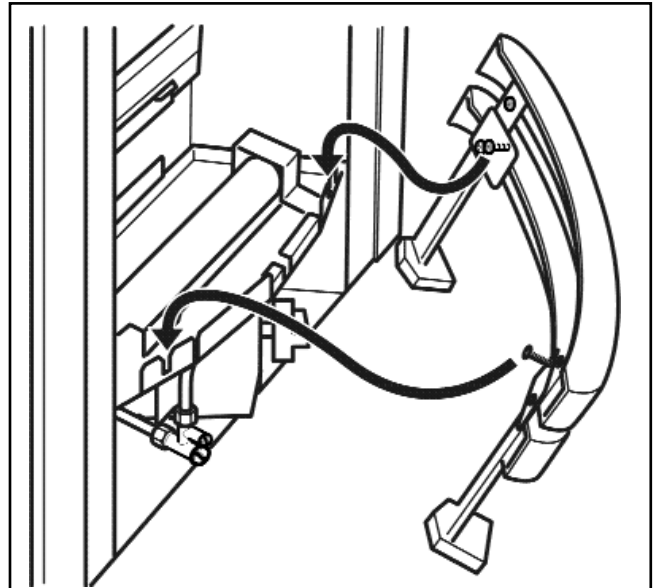

Figure 25. Firefront location
3. Locate the firefront as in figure 25. The screw heads should locate into the slots in the burner tray.